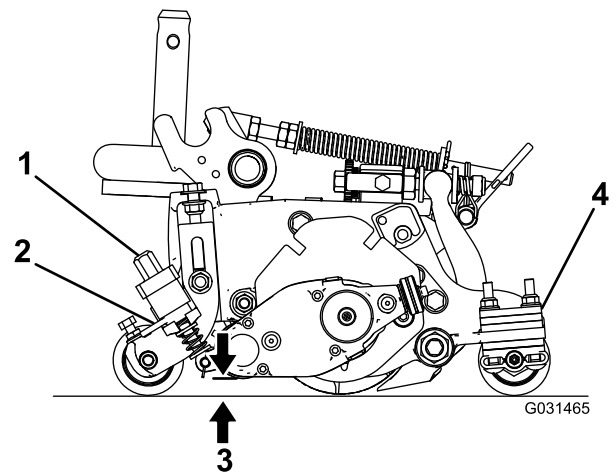

Figure 20
3. Rotate the quick-up levers (Figure 20) to the ENGAGED position (the handle points toward the front of the cutting unit).
4. At 1 end of the groomer reel, measure the distance from the lowest tip of the groomer blade to the working surface (Figure 20). Turn the height adjuster knob (Figure 20) to raise or lower the groomer blade tip to the desired height.